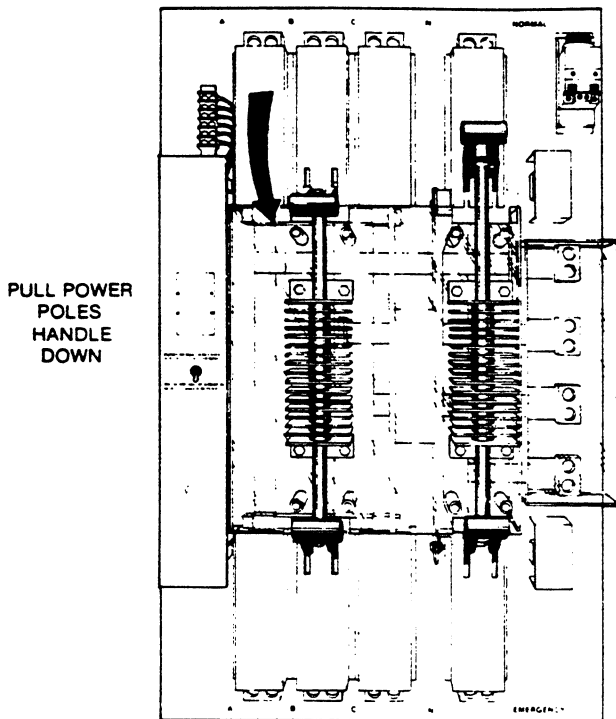

FIGURE 8.
2. Pull the top power handle down, as shown in Figure 8, disconnecting the power poles from the normal power source.